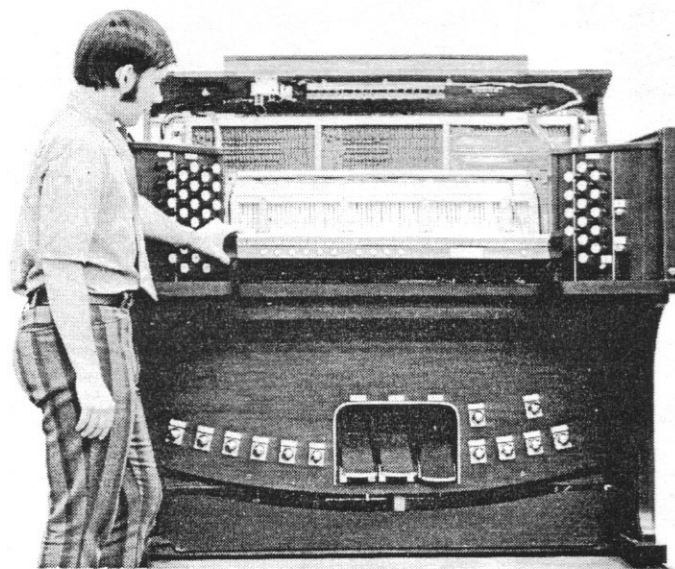

Fig. 1-3.
V. ACCESS TO THE KEYBOARDS: (Refer to Figure 1-3).